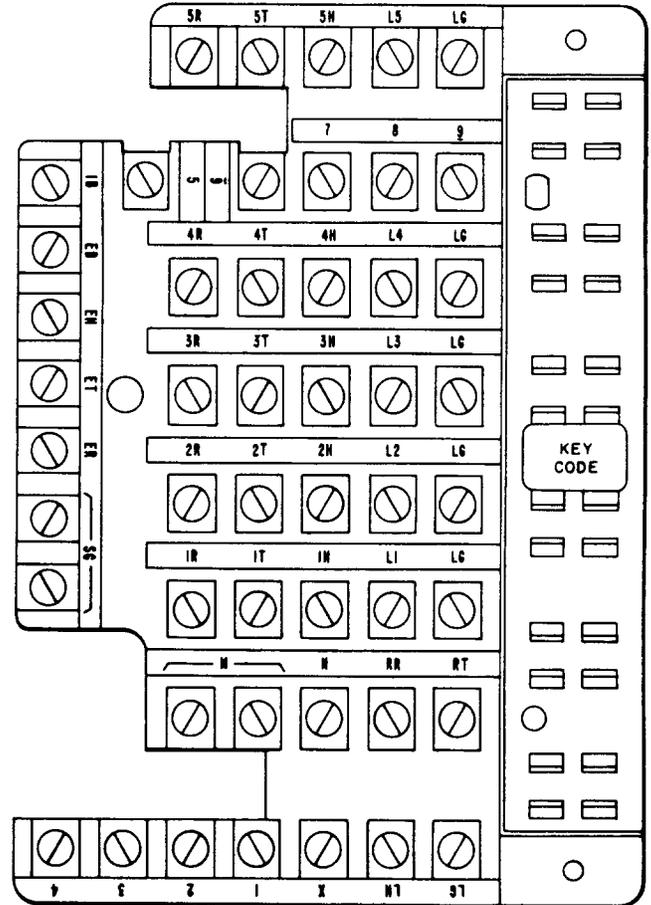
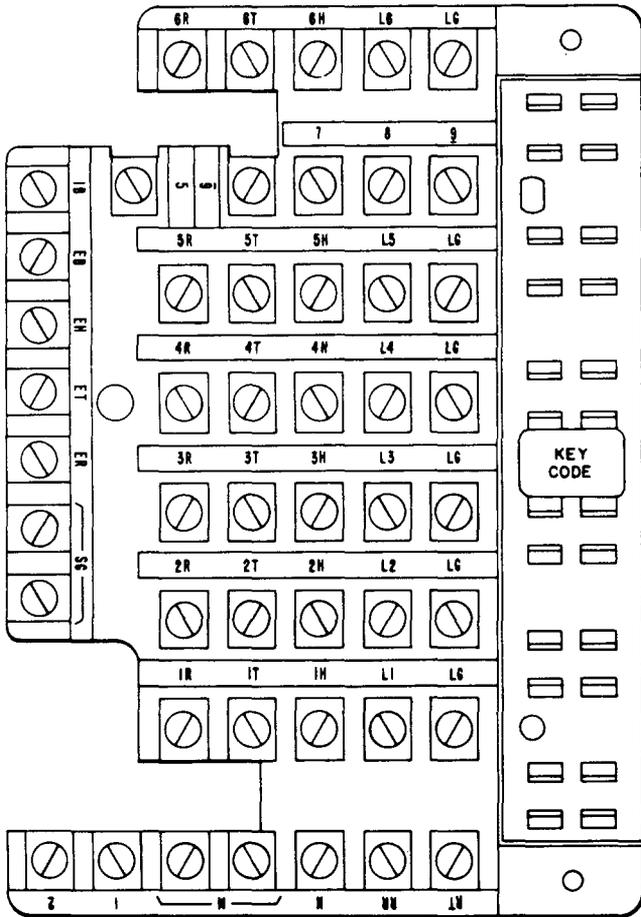

Fig. 2—Terminal Board for the 636A and 589Y Key
Fig. 3—Terminal Board for the 636B Key
**2.01** The 636-type key (Fig. 1) has a terminal board arrangement to accommodate matching cord terminal wafers, so that any line connected to the set can be interchanged readily to appear on any five line pickup keys. See Fig. 2 and 3 for terminal designations on the 636A and 636B, respectively.
**2.25** The 589Y and 636A use 814319836 (P-43A983) terminal board (Fig. 2). The 636B uses the 814454005 (P-44E400) terminal board (Fig. 3).